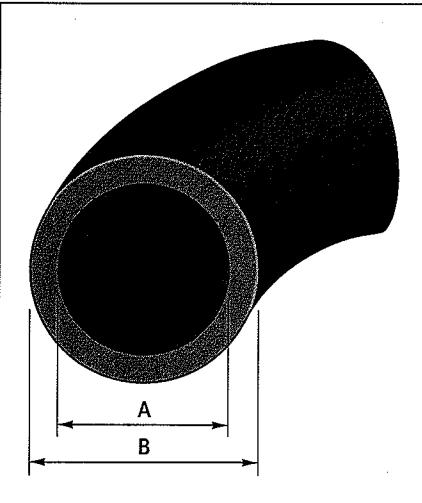

Figure 14-7:
- The diameter, color, and length of the hose: Most hoses are sold by their *inside* diameter (see Figure 14-7), so you may have to disconnect one end of the hose, measure its inside diameter, and reconnect it in order to drive to the store.